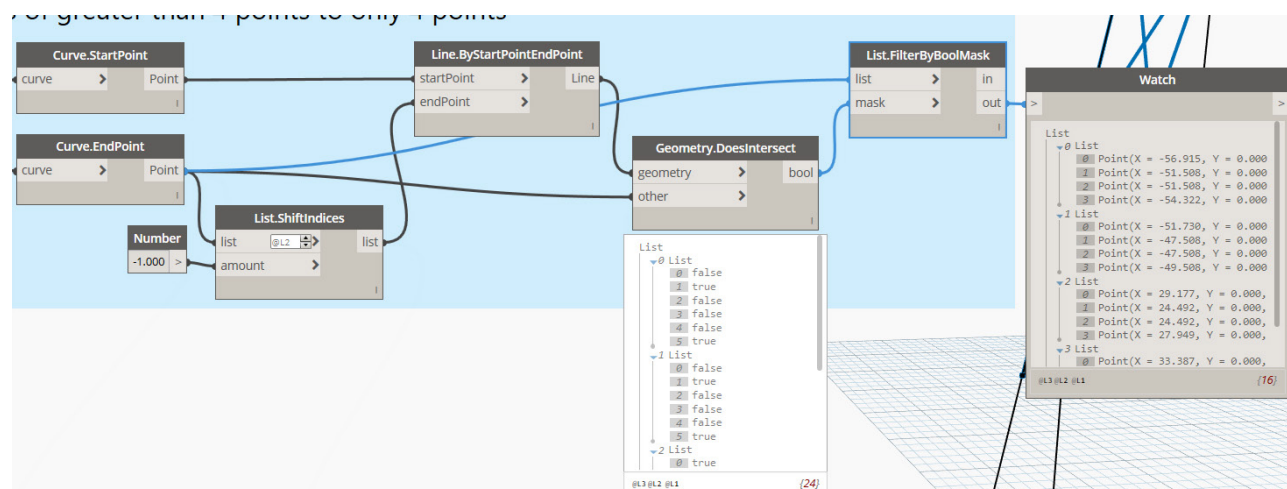

Figure 102
41. For the **list** port, feed in the output of the **Curve.EndPoint** node (see Figure 102).